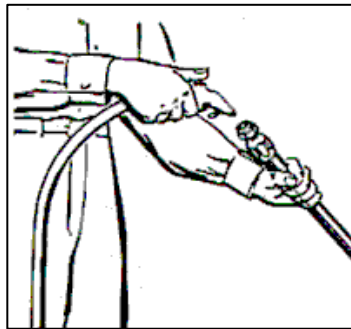
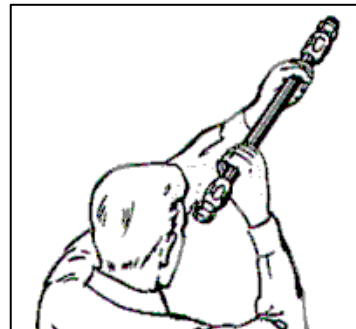

Figure 5.0
Figure 6.0
**Step 5:** Remove from the bench vice and flush the assembly with air to clean (Figure 5.0). Make a visual inspection of the assembly to assure no problems (Figure 6.0) .